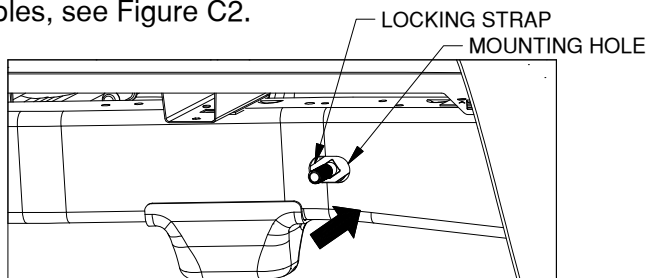

Figure C2: View looking into driver side wheel well.
- 1. Install carriage bolts.** Each side plate is attached to the frame with the help of a locking strap. To begin, locate mounting hole in the frame, attach the carriage bolts to the locking straps by passing the bolts through the straps. Insert the locking straps through the holes in the frame until they are completely inside the frame and only the carriage bolt is passing through the holes, see Figure C2.